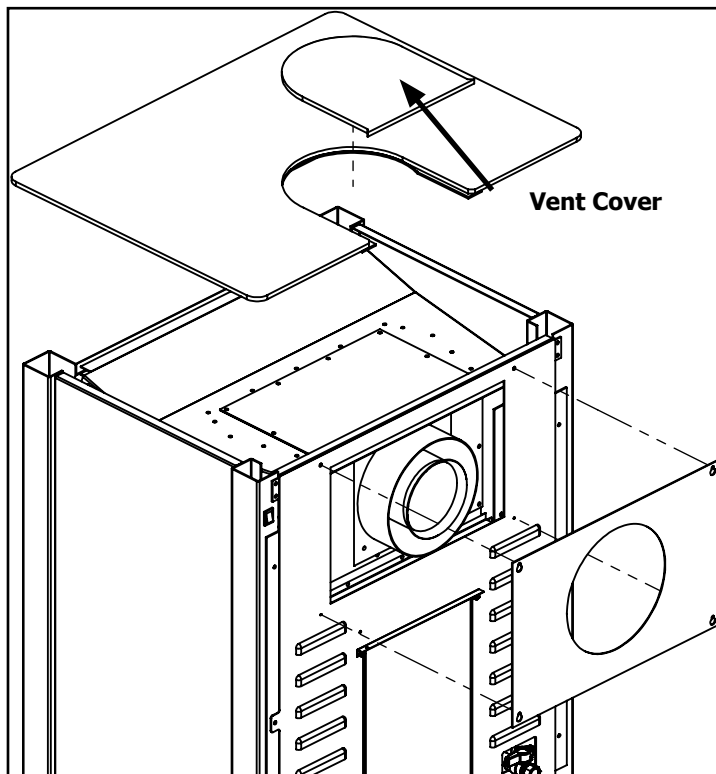

Figure 20. Vent Conversion - Step 4
**Step 4:** Re-install the Plate Top. Re-install the back plate and tighten the four retaining screws. Finally, install the vent cover supplied with the S20 as shown in Figure 20.